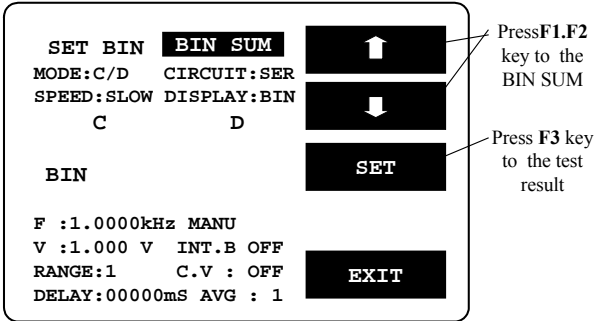

Figure 8-24
- Press F1/F2 key to select the white inverted characters “BIN.SUM” (Figure 8-24).